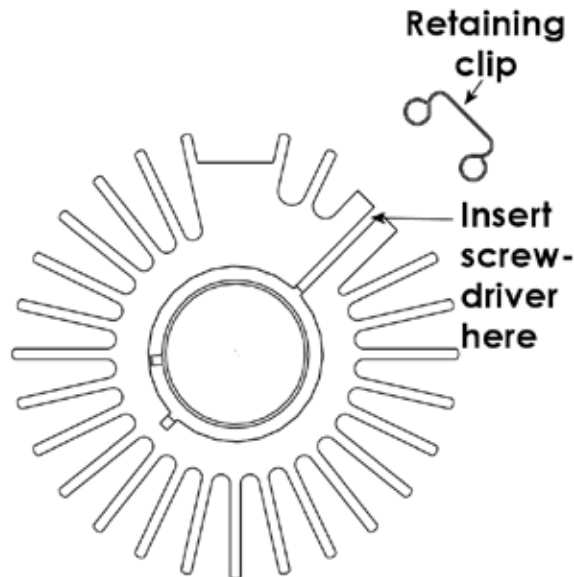

Figure 3-3. Heat sink retaining-clip removal.
3. Pry one of the retaining clips off one of the heat sinks and remove the heat sink. If the heat sink does not come off the bulb, insert a flat screw drive in the side slit of the heat sink and widen the gap (Figure 3-3) to remove the bulb. Repeat with the second heat sink.